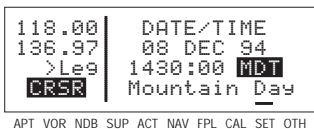

Figure 3-167
- Press **ENT** to start the clock running (figure 3-167). Note that the seconds will reset to zero when you do this.